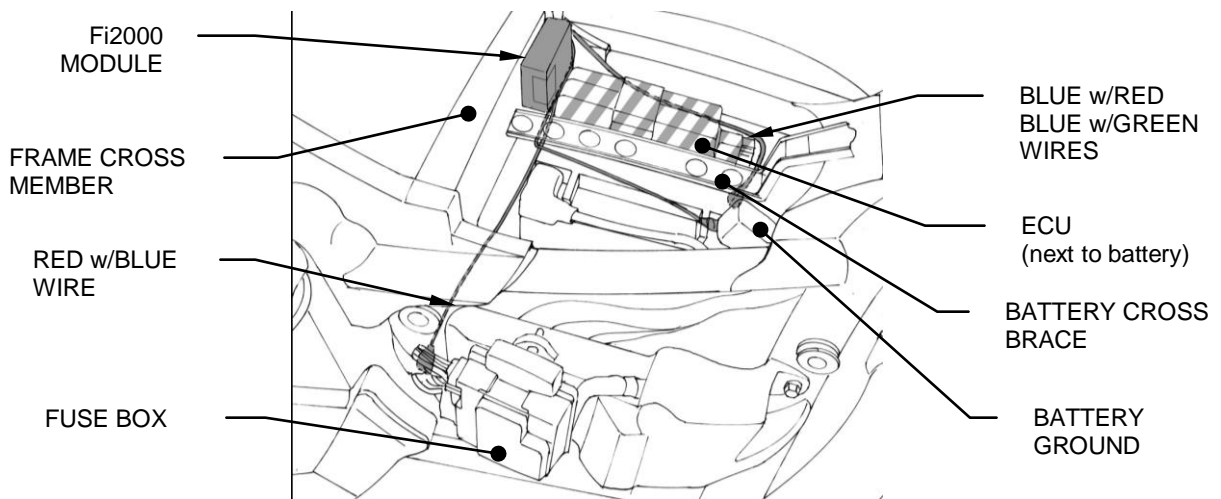

FIGURE 1
3. Remove the battery cross brace by unbolting the phillips screw. See **FIGURE 1**.
4. Locate the ECU next to the battery and lift it straight up and out to locate the BLUE w/RED stripe wire and the BLUE w/GREEN stripe wire on the harness going to the white connector for the ECU. Attach a t-tap connector to each of these wires about an inch from the connector on the ECU. See **FIGURE 1**.
5. Plug the Fi2000 module's BLUE w/RED stripe and BLUE w/GREEN stripe wires to the corresponding ECU wires with the t-tap connectors and replace the ECU to its original location. Route the wires as shown in **FIGURE 1**. **Note:** Make sure not to attach the t-tap connectors closer than 1" to the stock ECU connector.
6. Locate the RED w/BLUE stripe wire in the wiring loom on the right side of the motorcycle where the side cover was (the wire comes out of the fuse box) Attach a supplied t-tap connector on that wire. Refer to **FIGURE 1**.
7. Route the Fi2000's RED w/BLUE stripe wire behind the right frame rail and attach it to the t-tap connector installed in step 6 and the BLACK wire to the negative post of the battery. Refer to **FIGURE 1**.
8. Remove the backing from the Velcro and attach the Fi2000 module vertically at the back left corner just in front of the frame cross member as shown in **FIGURE 1**. Make sure the module is low enough to clear the seat.